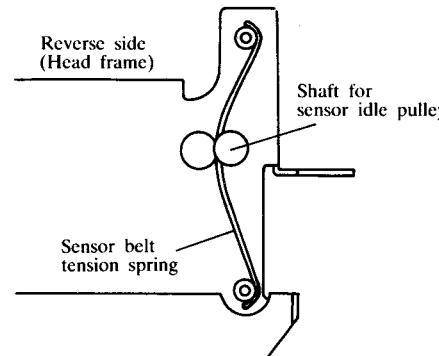

Fig. 38
- (4) Mount the Sensor idle pulley to the shaft and put the Snap ring E3. Then insert it into the fixed place from the front side of the frame and hook the Sensor belt tension spring to the shaft from the inside. (Refer to Fig. 38)